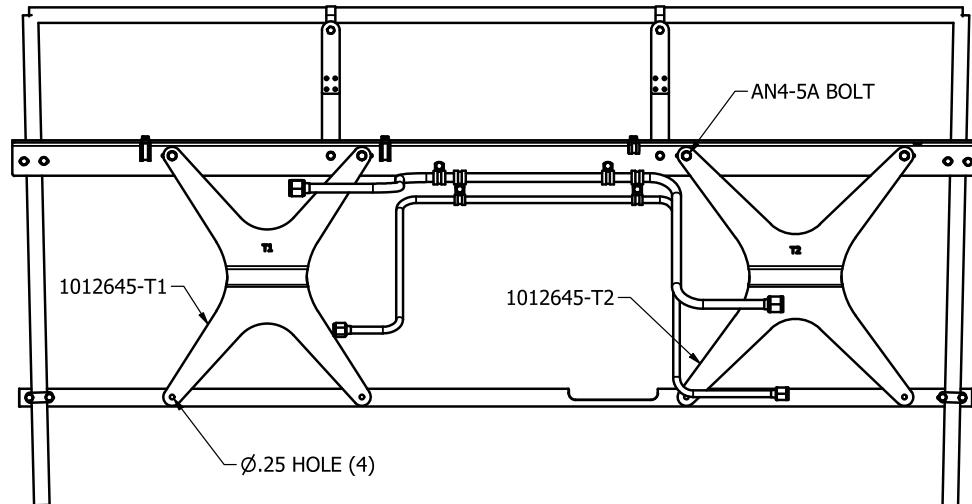

FIGURE 9
e. Install tooling 1012645-T1 and 1012645-T2 with AN4-5A bolts. Match drill four \varnothing .25 holes into fuselage steering support bracket (10A12357-086). Once holes are drilled, remove tooling. See Figure 9.